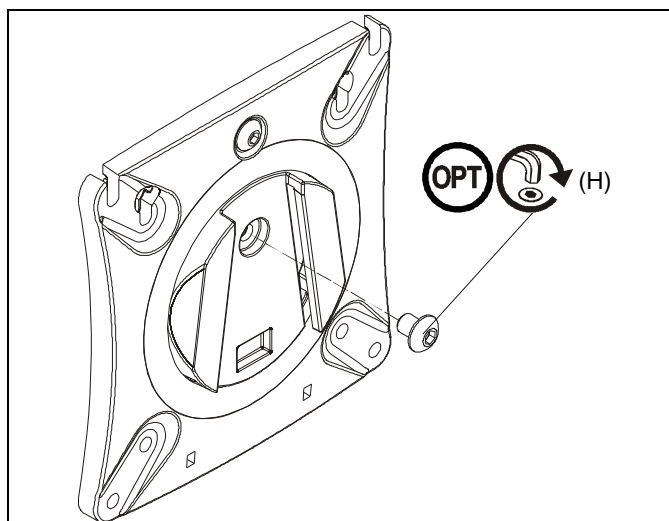

Figure 18
- Adjust pitch to desired tilt position. (See Figure 18)
- Adjust pitch tension screw to change the adjustment tension. (See Figure 18)
- Adjust pivot position as desired. (See Figure 18)
- Use 3/16" hex key (K) to adjust pivot point tension screws to change pivot adjustment tension. (See Figure 18)
NOTE: (Optional) Rotational adjustment may be locked by installing rotational locking screw (H) into back of faceplate. (See Figure 18)